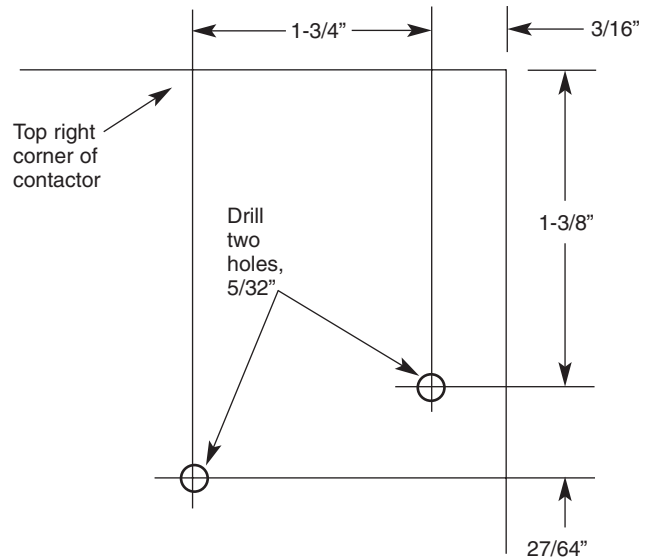

Figure 9. Drilling for terminal block
The terminal block and surge suppressors included in this kit are installed on the closing coil contactor of reclosers equipped with the low-voltage closing accessory. To install the suppressor, refer to Figures 9 and 10.
1. Drill two 5/32" holes as shown in Figure 9.